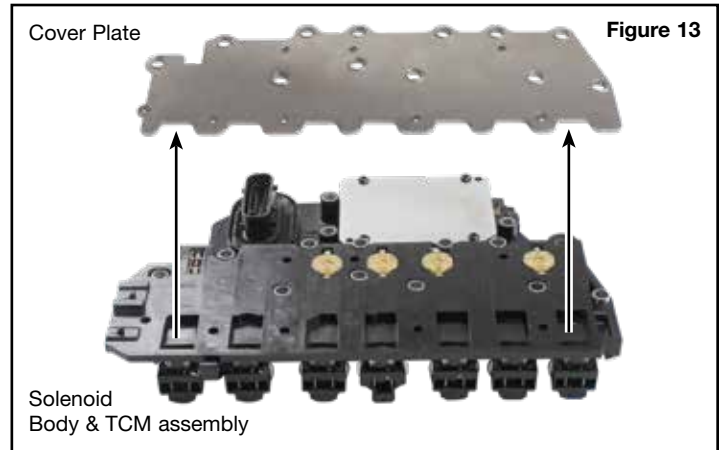

Figure 13
- a. Remove retaining screws and detach solenoid body cover plate (Figure 13).
- g. Reinstall solenoid body cover plate and secure with retaining screws (**Figure 13**).